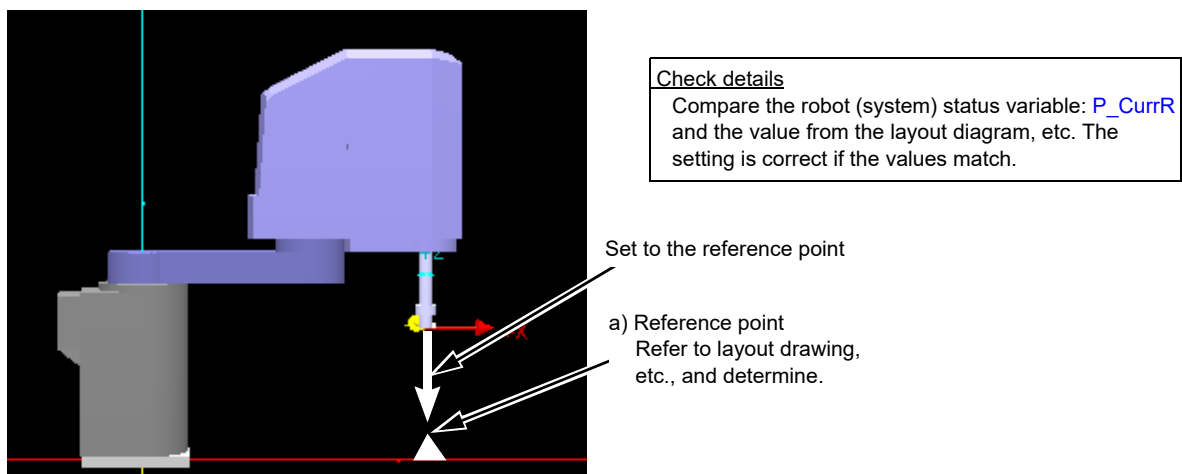

Fig.5-25: Checking the setting for calibration between robots
- 1) Looking at the system layout drawing, etc., set one reference point for each robot. (Fig. 5-25 a) (Hereinafter, reference point)